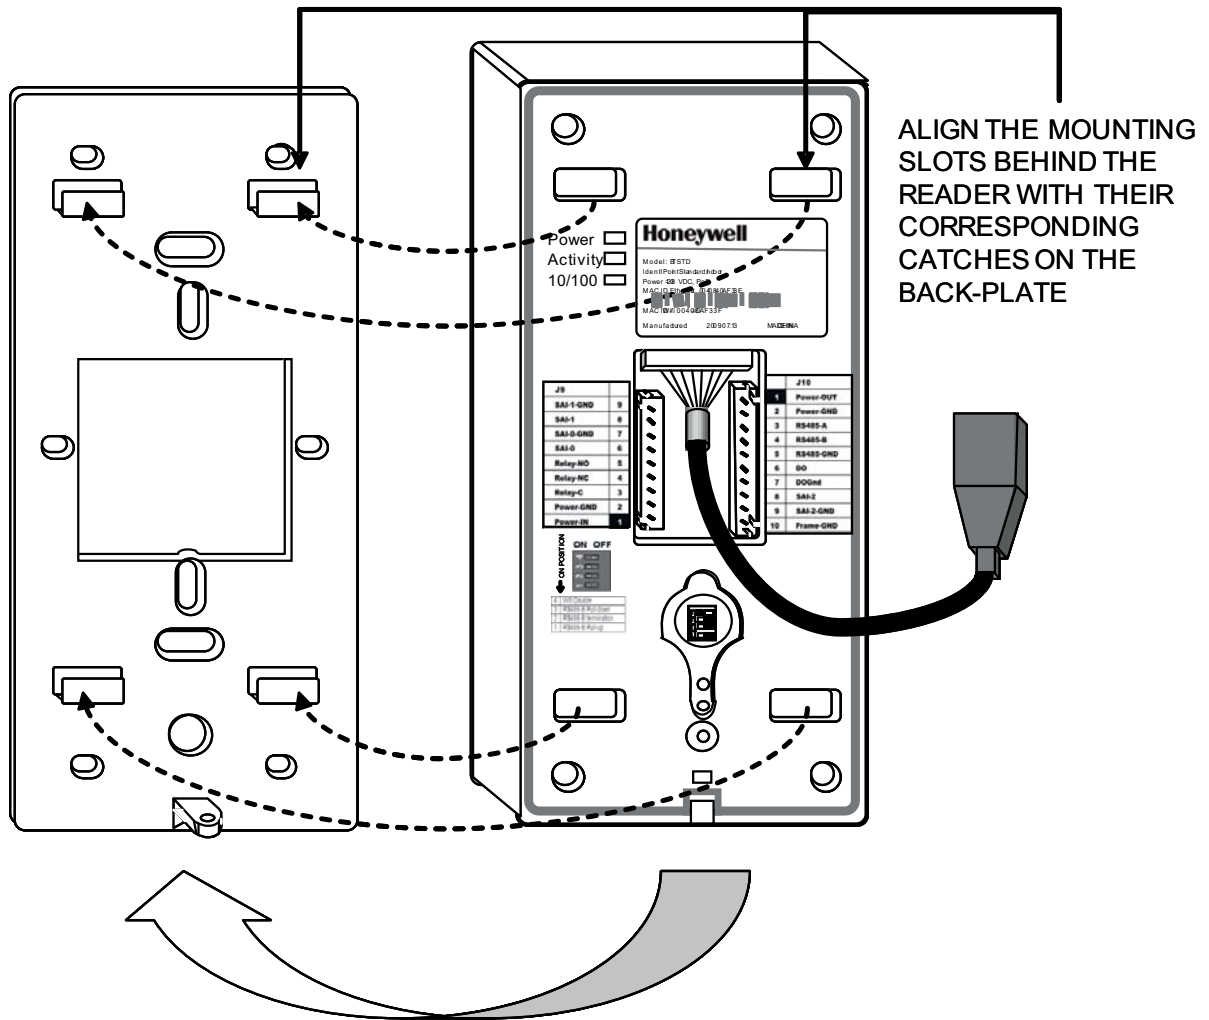
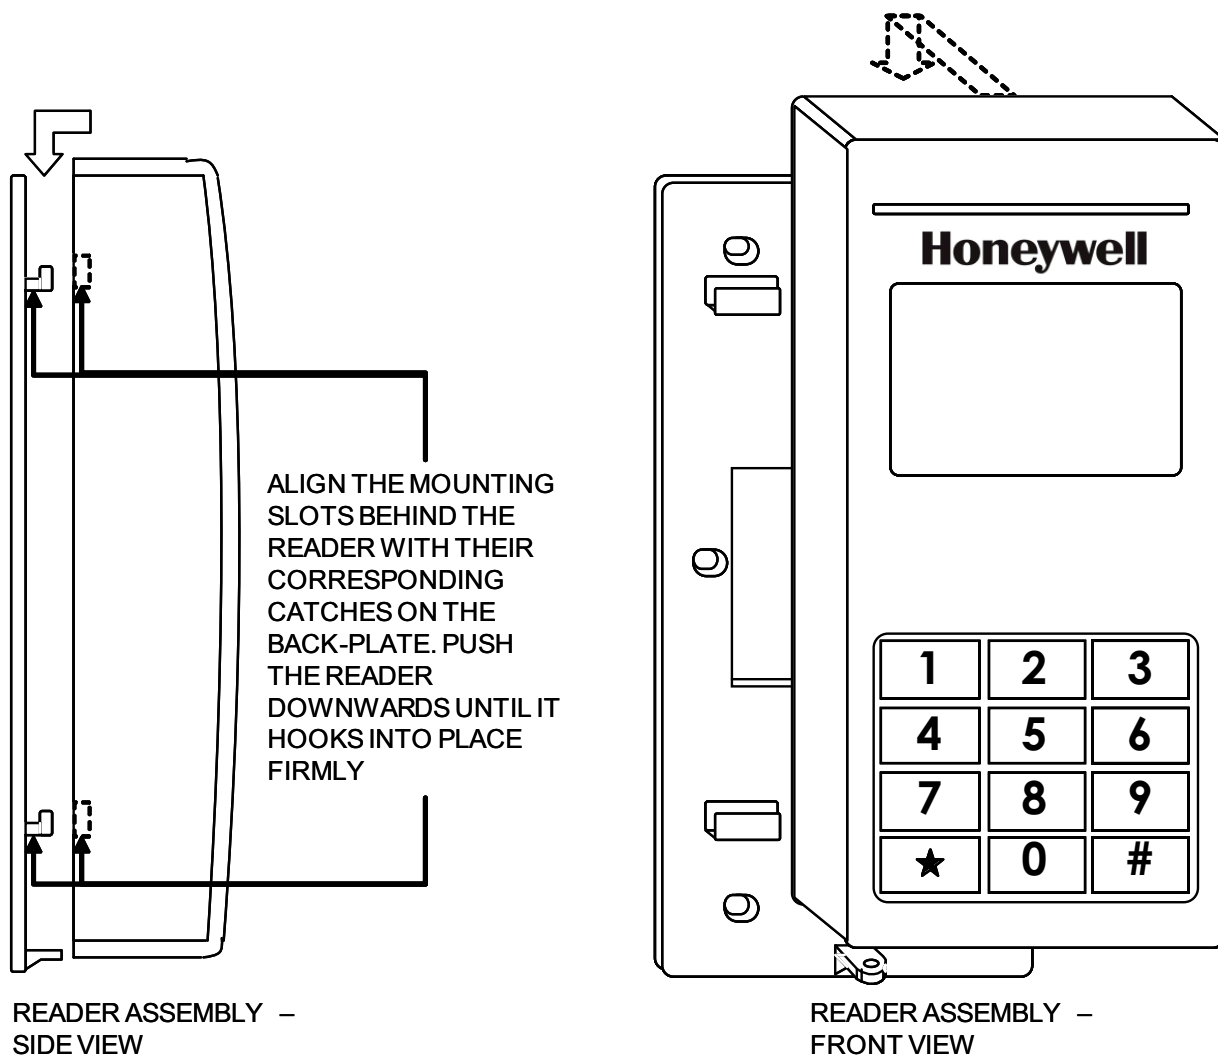

Fig. 8. Aligning IdentIPoint reader with back-plate before mounting it
Fig. 9. Mounting Identipoint reader on the back-plate
5. Once all the connections and settings are done, hold the reader against the back-plate, aligning the mounting slots at the back of the reader with their corresponding catches on the back-plate and push it downwards until it hooks into place firmly. See Fig.8 and Fig.9.
4. Once all the connections and settings are done, hold the reader against the back-plate, aligning the mounting slots at the back of the reader with their corresponding catches on the back-plate and push it downwards until it hooks into place firmly. See Fig.8 and Fig.9.